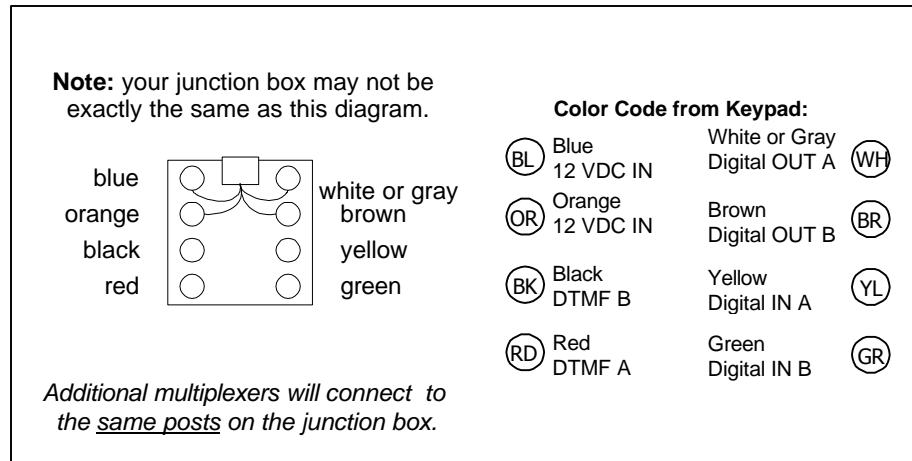

Figure 1
4. Junction Box (Figure 1)
5. (1) Power Supply 9 VAC
6. (1) Power Supply 12 VDC